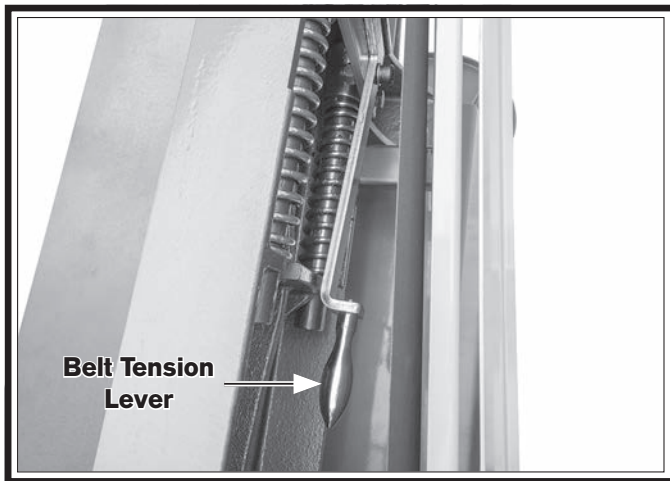

Figure 18. Sanding belt installed and tensioned.
6. Move belt tension lever down to tension sanding belt (see **Figure 18**).